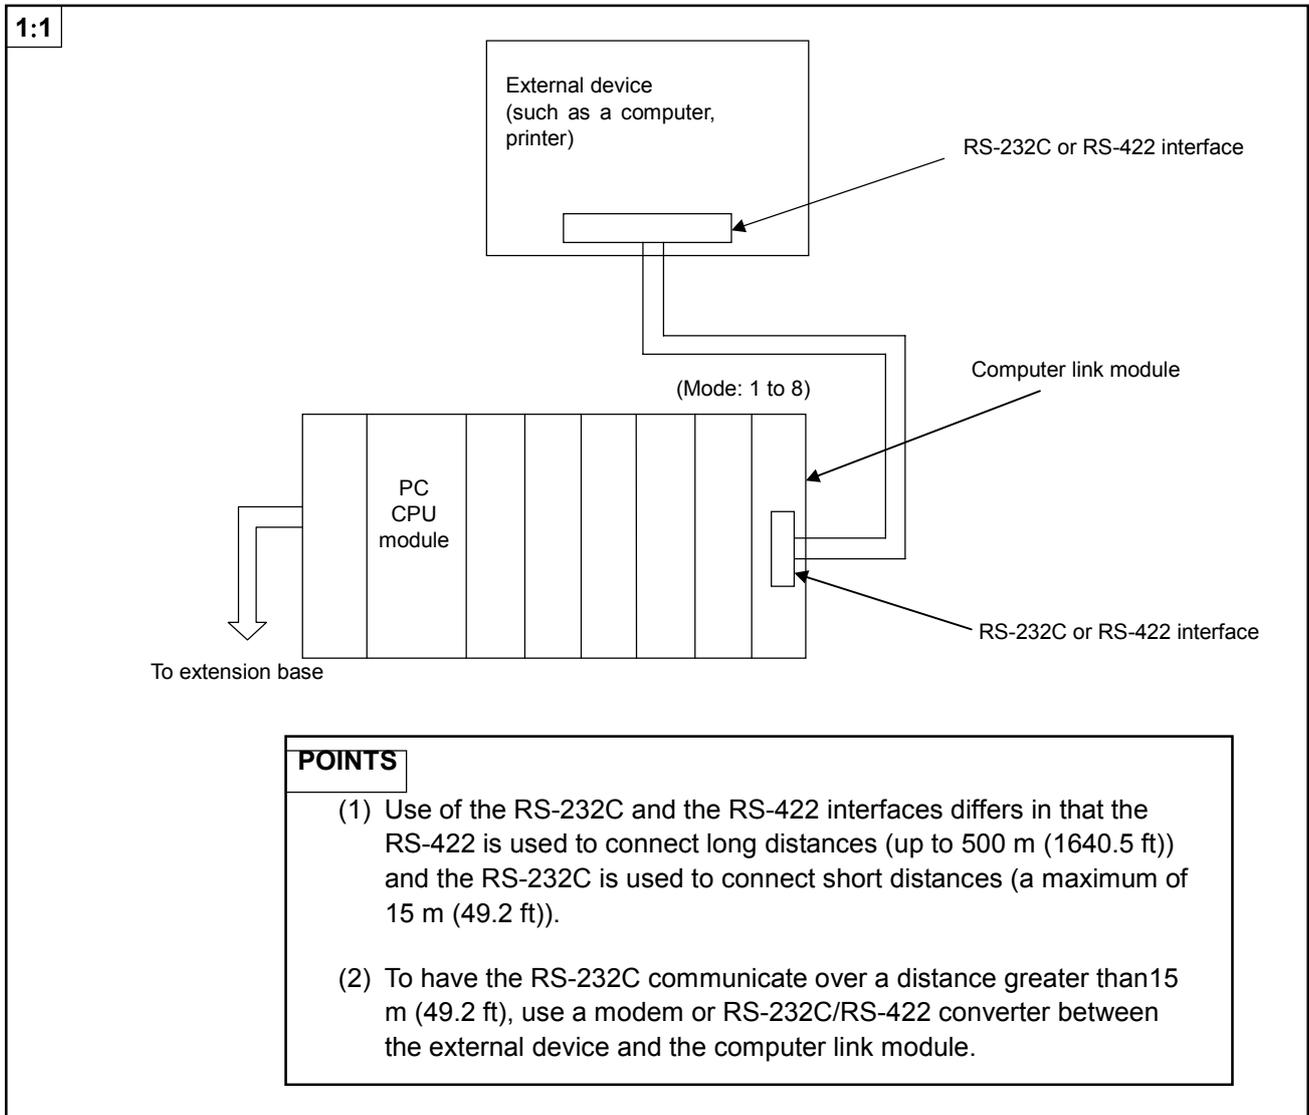

Fig. 2.1 System Configurations (I)
- (1) The system configuration for a 1 : 1 ratio of an external device (such as a computer) to a PC CPU is shown in Fig. 2.1 below.